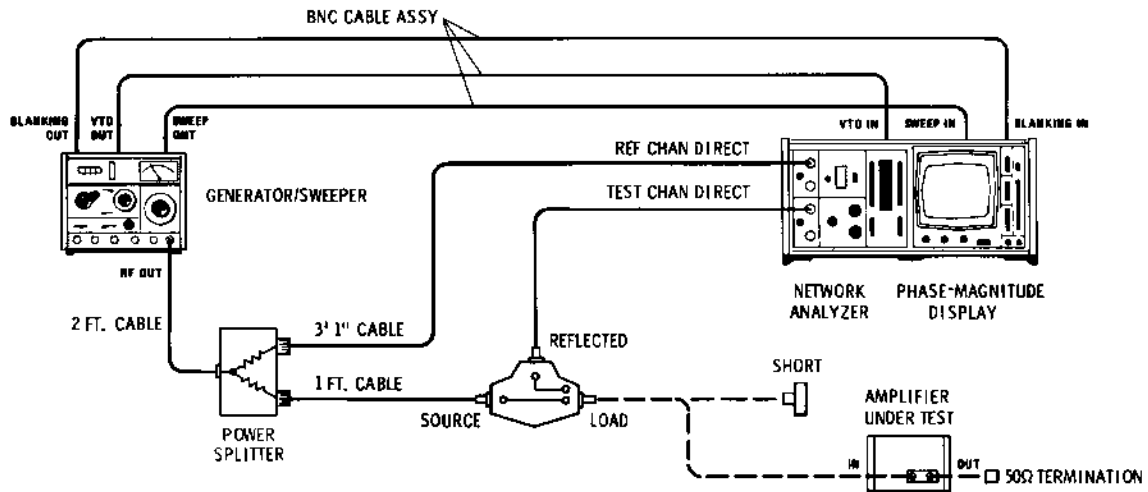

Figure 5 VSWR Test Setup: 1 to 110 MHz
- 1 Connect the equipment as shown in Figure 5. Set the generator/sweeper for a  $-10$  dBm signal, sweeping from 1 to 110 MHz.